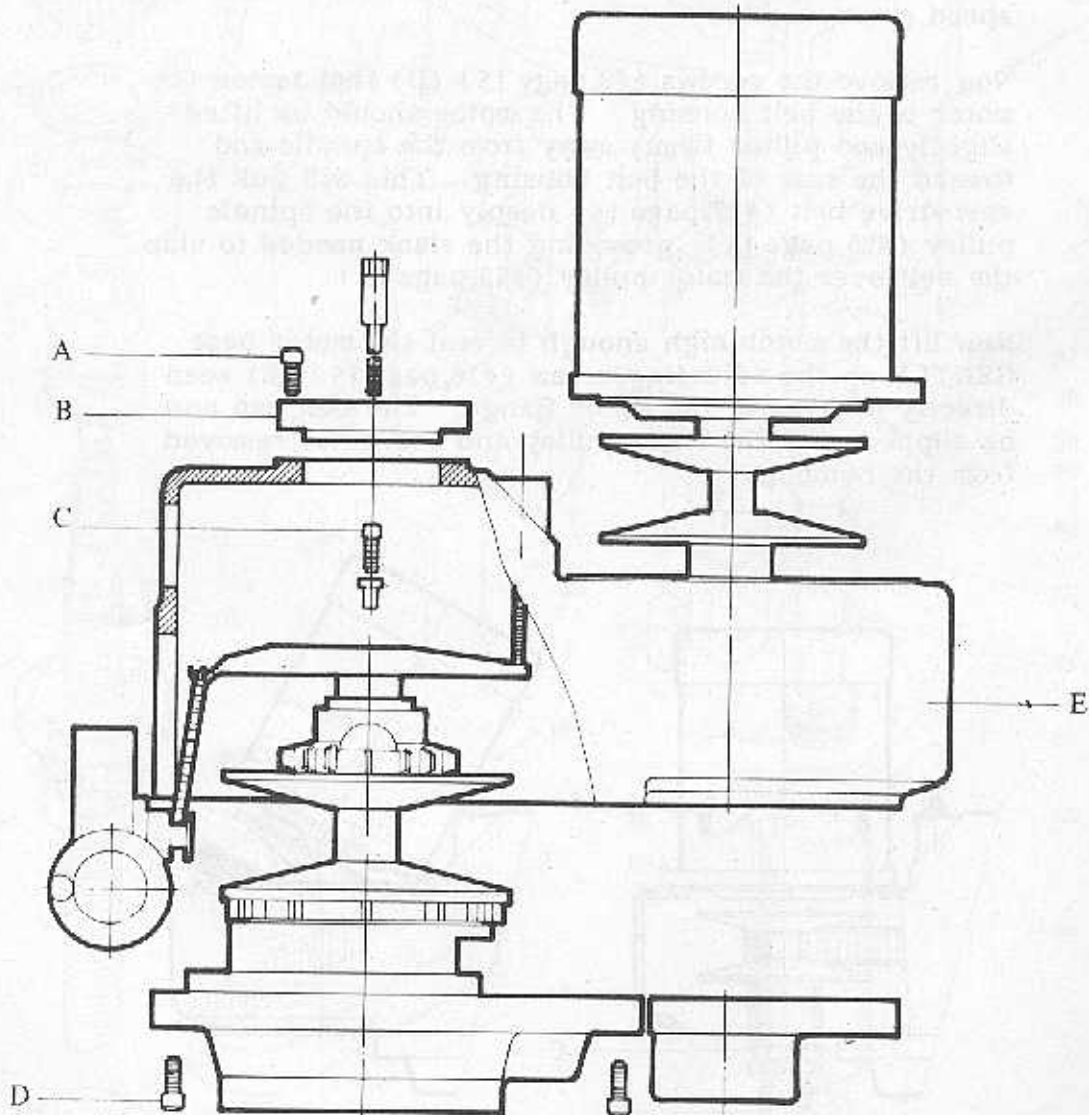

Fig. 3
CHANGING VARI-DRIVE BELT (Figure 3)
Complete the previous procedures for removing the motor, then remove the three screws (#1, page 15) (A, Fig. 3) and lift out the top bearing cap (#13, page 13) (B). Looking down inside of the housing, locate and remove two socket head cap screws (#17, page 15) and sleeves (#19, page 15) (C). Next, remove the six screws (#64, page 15) (D), then holding the belt housing (E) to the base (#63, page 15).